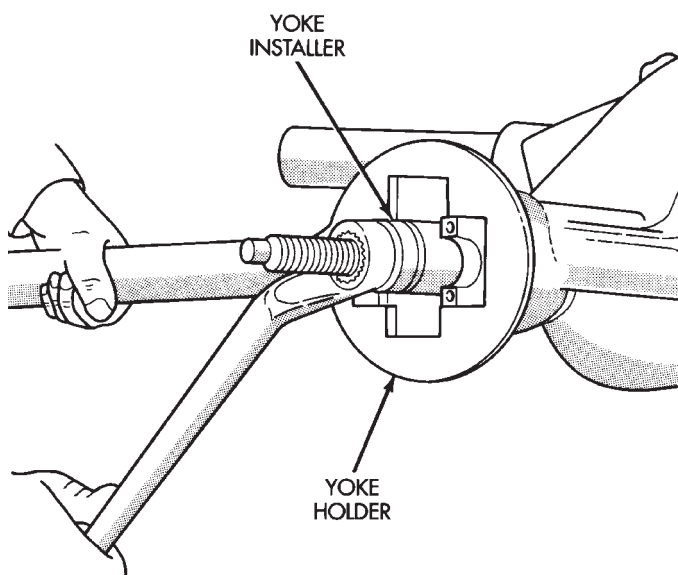

Fig. 32 Pinion Yoke Installation
(8) Install yoke with Installer D-191 (Fig. 32).
(9) Install the yoke washer and a new nut on the pinion gear. Install yoke washer with concave surface against the yoke.